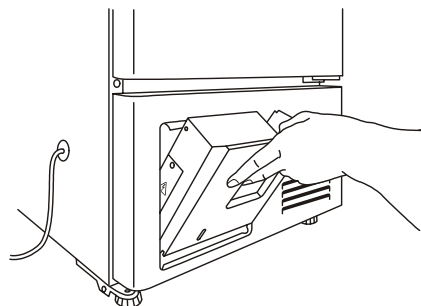

Fig. 7
3. Remove the cap on the port for taking out the recorder sensor and take out the recorder sensor. Then set the recorder fitting to the space of temperature recorder. (Fig. 7)